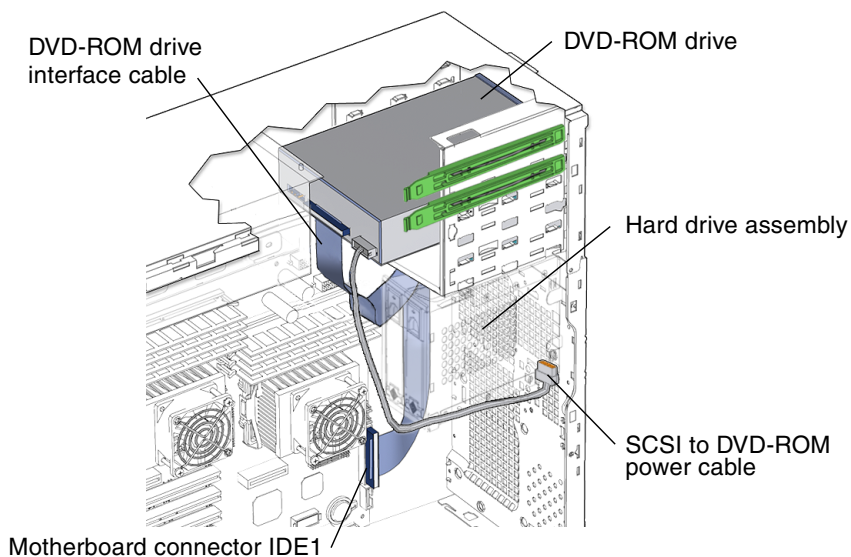

FIGURE 14-4 DVD-ROM Drive Power and Interface Cables Location and Identification
The DVD-ROM drive has separate power and interface cables. The power cable is routed from the 4-pin connector on the SCSI backplane to the DVD-ROM drive (FIGURE 14-4).
2. Locate the DVD-ROM drive interface cable (FIGURE 14-4).
5. Disconnect the DVD-ROM drive interface cable from motherboard connector IDE1 (FIGURE 14-4).
7. Disconnect the SCSI to DVD-ROM power cable (FIGURE 14-4).
2. **Locate where the DVD-ROM drive interface cable is to be installed (FIGURE 14-4).**
3. **Connect the interface cable to the DVD-ROM drive (FIGURE 14-4).**
5. **Connect the interface cable into the motherboard connector IDE1 (FIGURE 14-4).**